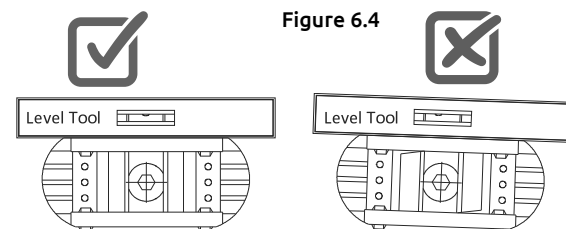

Figure 6.5
- ◆ Contact between the fish plate and the phase conductor shall be parallel to provide excellent contact shown in Figure 6.5.